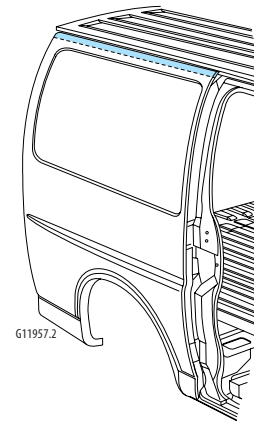

Figure 7-2:
4. Apply 50mm (2 inch) wide tape along the upper edge of the quarter panel at the roof line (figure 7-2).